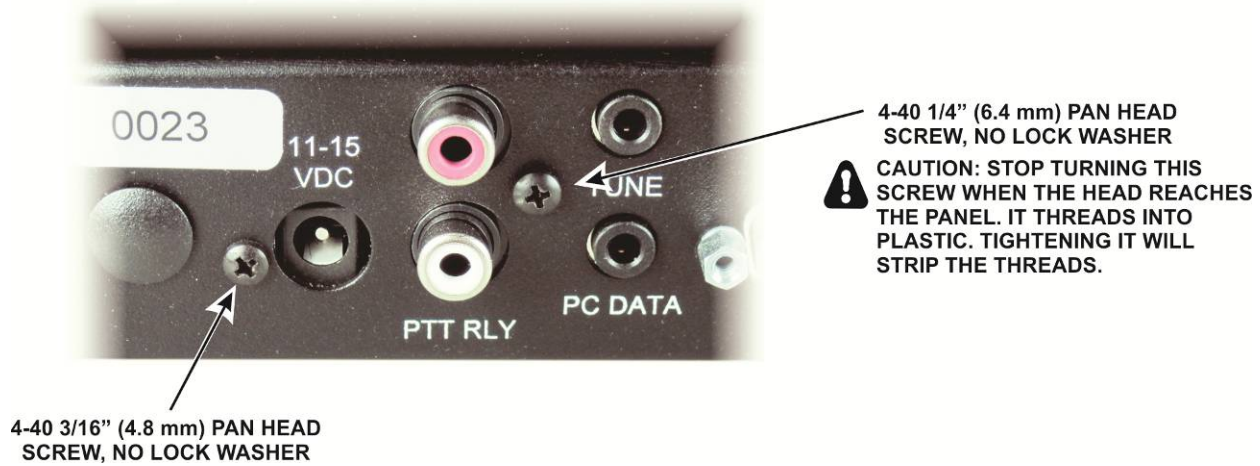

Figure 26. Installing Rear Panel Pan Head Screws.
- ☐ Install the two pan head screws shown in Figure 26. **Stop turning the screw indicated when the head reaches the rear panel. It threads into plastic and the threads will easily strip.**